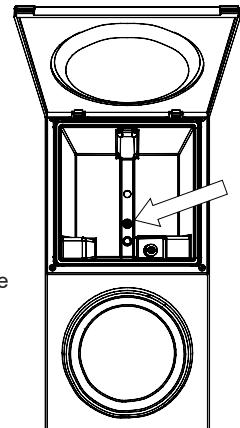

Fig. 5
**Tip:** In case the light does not light up, there will probably be some air inside the system. Check the supply down in the water reservoir (fig.5), there might be some air bubbles inside. In that case they have to be removed with, for instance, a pencil.